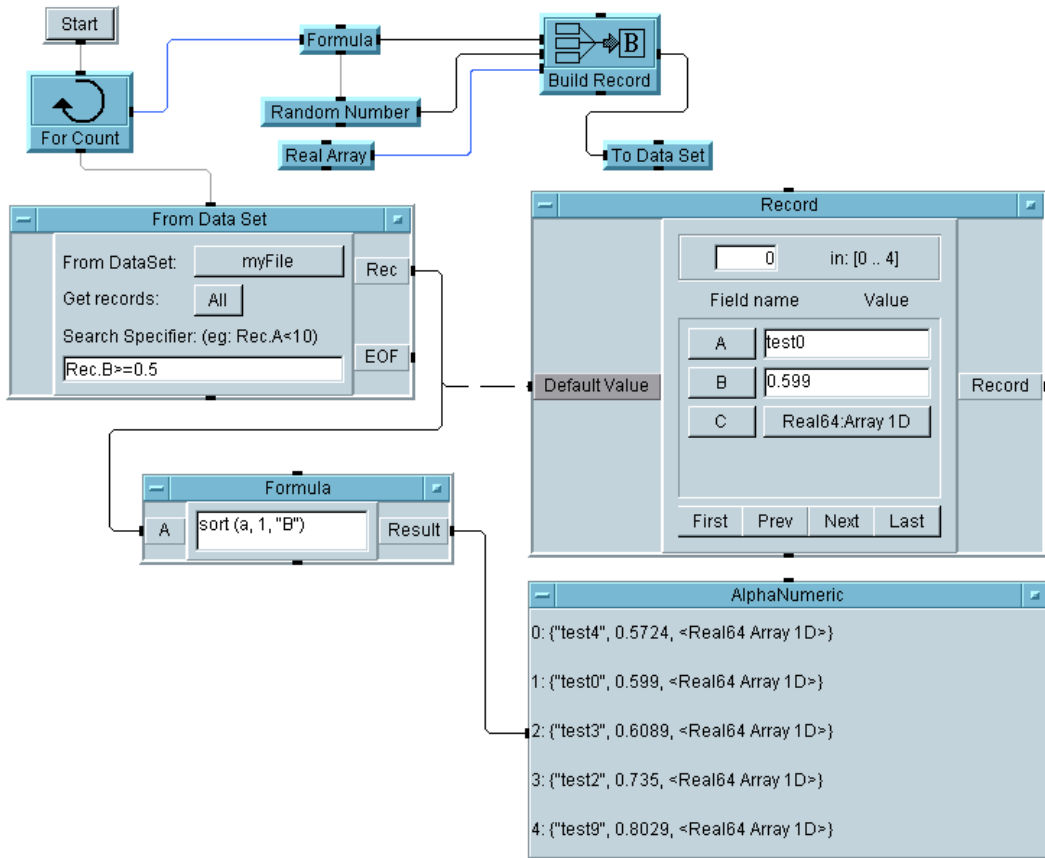

Figure 149 A Sort Operation on a Record Field
- 4 Run the program a few times. It should look similar to Figure 149. Notice that the program sorts all of the records returned from the DataSet file in ascending order by field B.